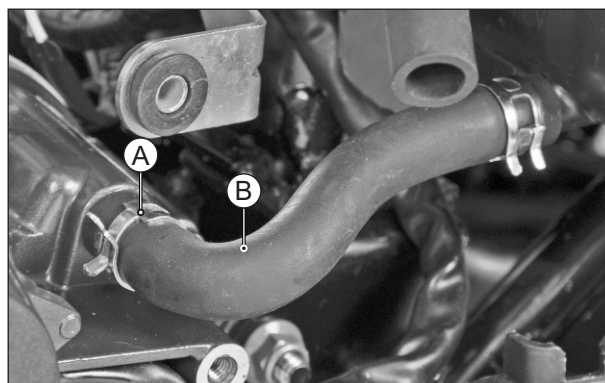

Fig. 3.122
- Dislocate the hose clip (A) and disconnect the hose breather PCV (B) from the engine assembly. (Fig. 3.122)